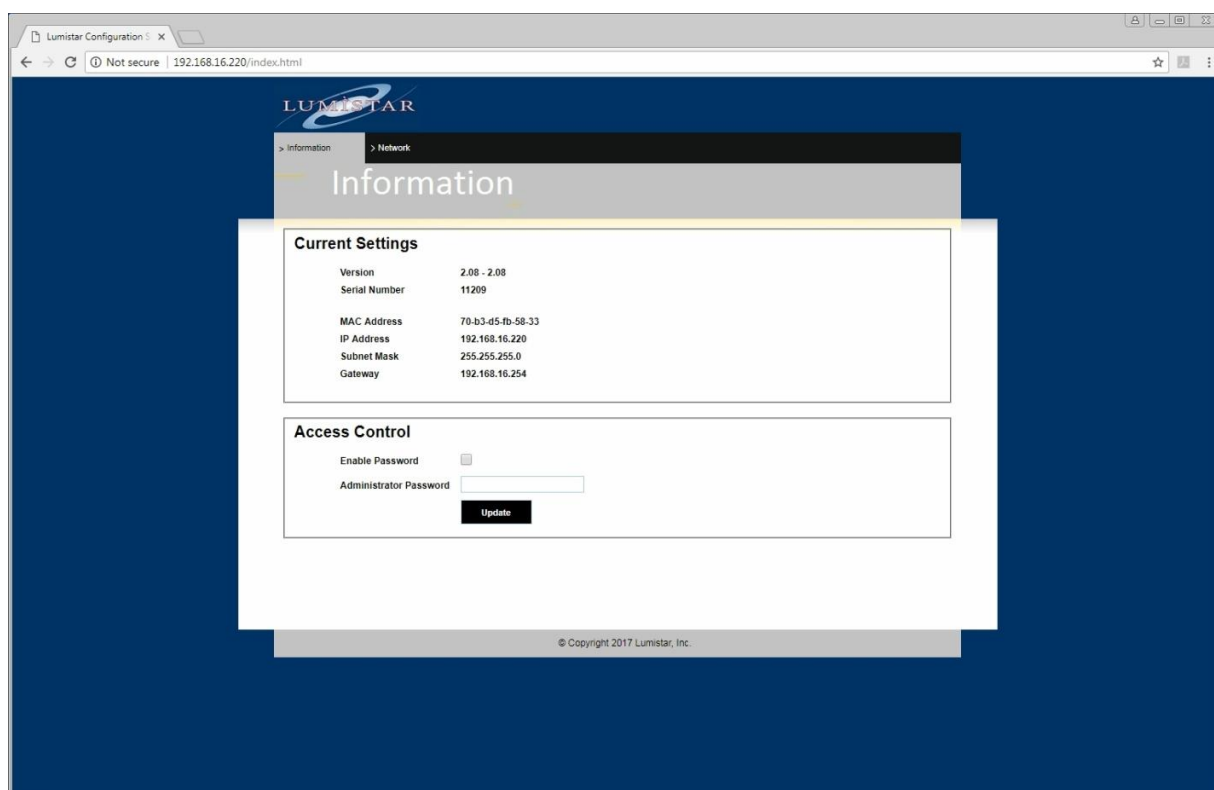

Figure 2-6 LS-28-DRSM Network Setup: Web Browser Information Setup Tab
Step 4: On a host machine connected to the same network as the LS-28-DRSM, launch a web browser window and enter the IP address in the address bar of the browser. The factory default IP address is **192.168.16.220**. This will result in web browser page display similar to the one shown in Figure 2-6. The tab provides network information to the user (as indicated) and the ability to administrative access controls. To set an administrative password, enter a password in the indicated box, select the ENABLE check box and click the UPDATE button at the bottom of the page.